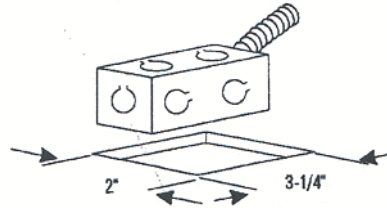

Figure 2
3. Select location near rough-in section for mounting junction box (attached to emergency ballast assembly) that will house the remote test switch/charging indicator light cover plate. Cut hole in ceiling using junction box as a reference as shown in Figure 2 (approximate size required: 2" x 3 1/4"). Secure junction box in hole.